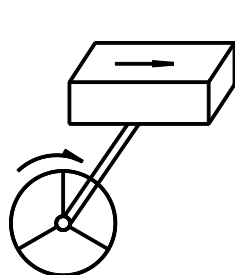
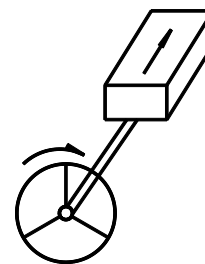

Fig. 9 Handwheel and moving directions of the carriage
Fig. 10 Handwheels and moving directions of slides
The relationship between the operating directions of the handwheel (11) for moving the carriage in longitudinal direction, the handwheel (12) for moving the cross slide in cross direction and the handle (13) for moving the compound rest and corresponding movement of the carriage, the cross slide and the compound rest of the machine is in accordance with the standard GB/T17161-1997 (eqv.ISO447;1984) <<Operating Direction of Control Devices of the Machine>>. When the handwheel is clockwise rotated (viewing from operator's facing to the shaft end used for installation of the handwheel), the controlled carriage makes straight movement toward right (see Fig. 9), the cross slide and the compound rest make straight movement far from operator (see Fig. 10)